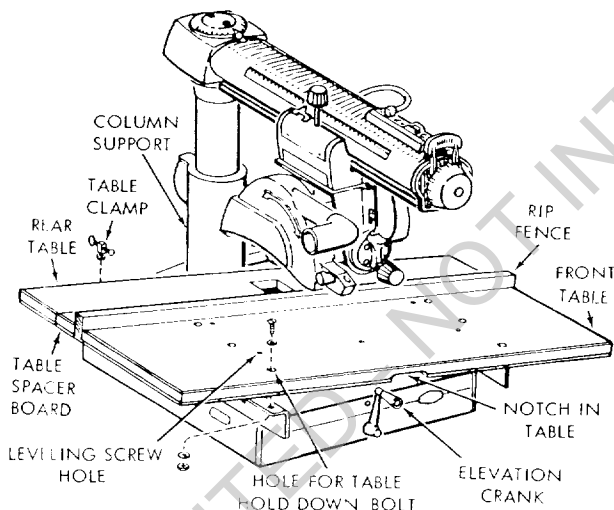
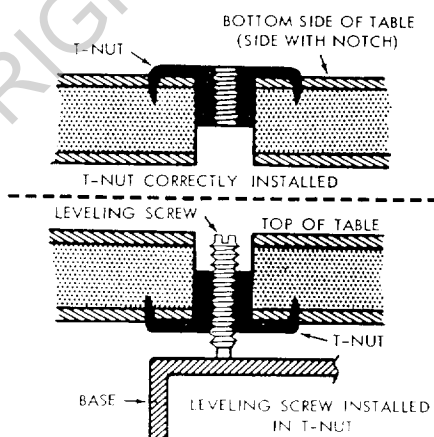

Figure 4
Figure 5
The saw should be placed on a suitable sturdy work bench and the base positioned so that the elevation crank is free to rotate. (See figure 4.) The base of the saw must be mounted flush to a flat surface on the work bench to prevent distortion of the saw base. The nuts, screws, and washers which attach the wooden shipping skids to the saw base may be used to secure the saw base to the work bench.
1. Place the large table board upside-down on floor. The bottom side has a notch (cutout) for clearance of elevation crank. (See figure 4.) Distinguish between the five through-bored (leveling screw) holes and the seven countersink holes. Drive nuts into the five through-bored holes. (See figure 5.)
2. Place the large table board on channels with cutout notch forward and down as shown in figure 4.
- Insert a set screw (leveling screw) into each of the five leveling, T-nuts. (See figure 5.) Insert screws from the top side until they just touch the top of the base.
16. Install the table clamps at locations shown in figure 4 and tighten them securely against the edge of rear table.